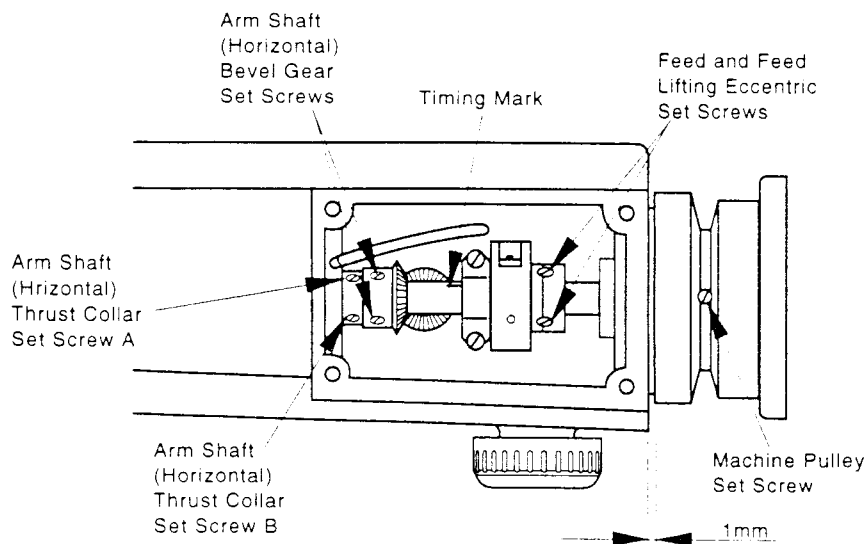

Fig. 31
5. Turn machine pulley over toward you until the two set screws in the thrust collar are at top as shown in Fig. 31. Align and securely tighten the upper set screw A (set screw which appears immediately after the first set screw when machine pulley is rotated over toward operator) on the longer timing mark provided for it on the arm shaft to give minimum end play in arm shaft. Turn machine pulley and test the arm shaft for freeness in rotation.
6. Set machine pulley in position so that there is 1mm clearance between machine pulley and end face of arm, as shown in Fig. 31.